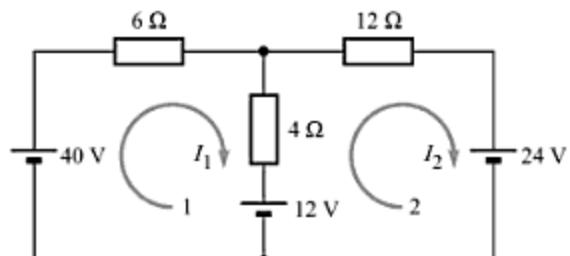

Fig. A-64
- A-21. Determine the current in 4-Ω resistor in the circuit of Fig. A-64. [Ans. 0.83 A]